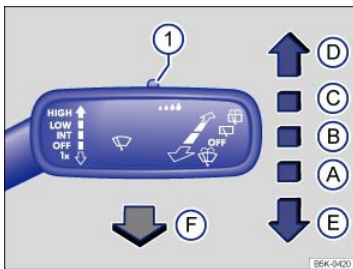
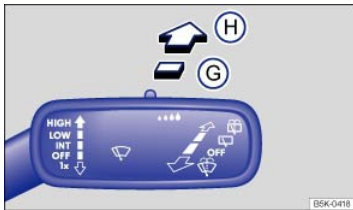

Fig. 93 Operating the front windshield wipers.
Fig. 94 Operating the rear wiper.
Move the lever to the desired position ⇒ Fig. 93 ⇒ ① :
- ① **Interval** Switch for adjusting the windshield wiper interval settings (vehicles without a rain sensor) or the sensitivity of the rain sensor (vehicles with a rain sensor).
Move the lever to the desired position ⇒ Fig. 94 ⇒ ① :